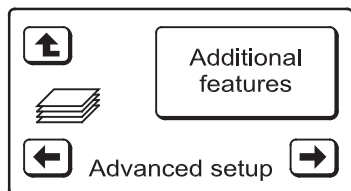

FIG. 64
3. Press the **ADVANCED SETUP** button to display the screen shown in Figure 64.